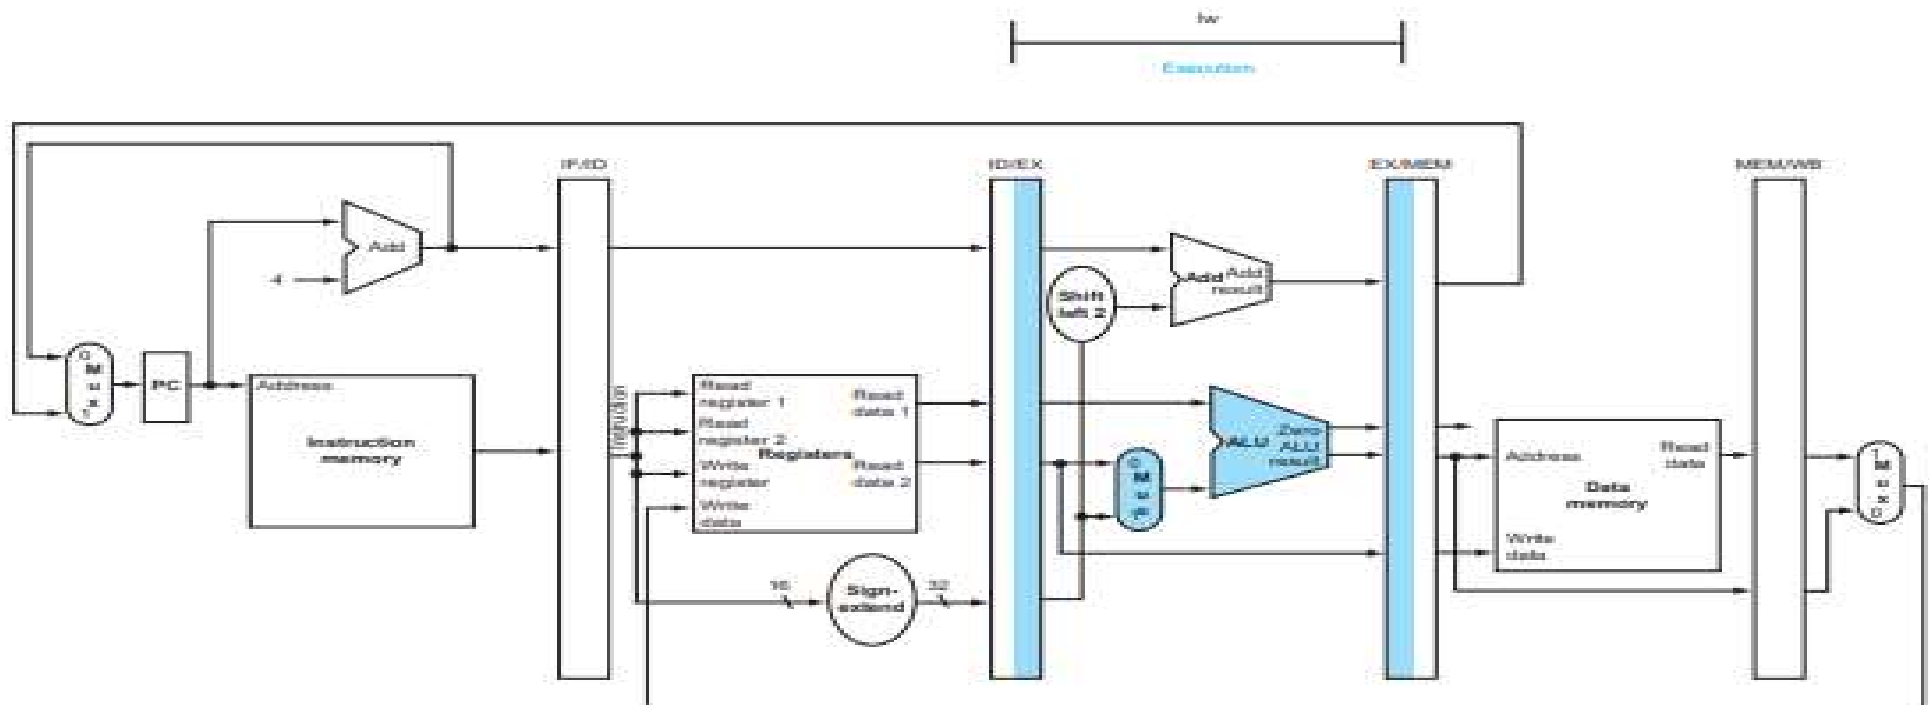

FIGURE 37 EX: The third pipe stage of a load instruction, highlighting the portions of the datapath
- Figure 37 shows that the load instruction **reads the contents of register 1 and the sign-extended immediate** from the ID/EX pipeline register and **adds them using the ALU**. That sum is placed in the EX/MEM pipeline register.